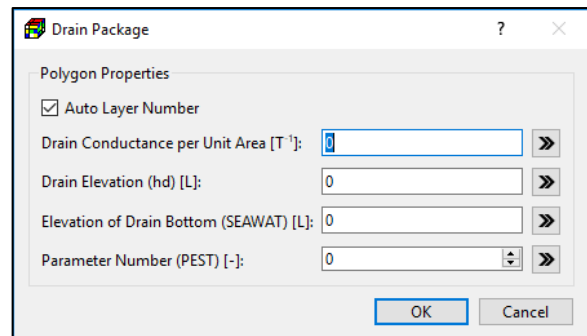

Figure 40. The Drain Package dialog box for specifying polygon properties
3. Polygon input method: Figure 40 shows the dialog box that is used to specify polygon properties. The polygon data may be assigned to model cells following the rules described in Section 3.3.2.3 and the rules below.